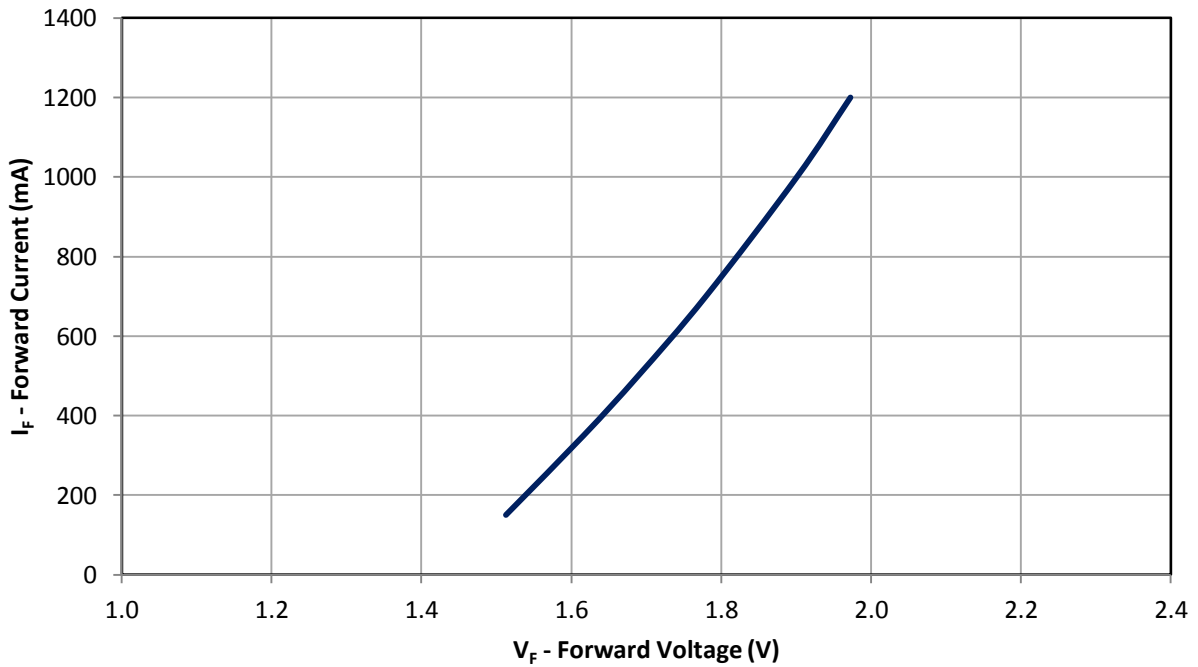

Figure 10: Typical forward current vs. forward voltage @ Tc = 25°C
- Maximum DC forward current is determined by the overall thermal resistance and ambient temperature. Follow the curves in Figure 10 for current derating.